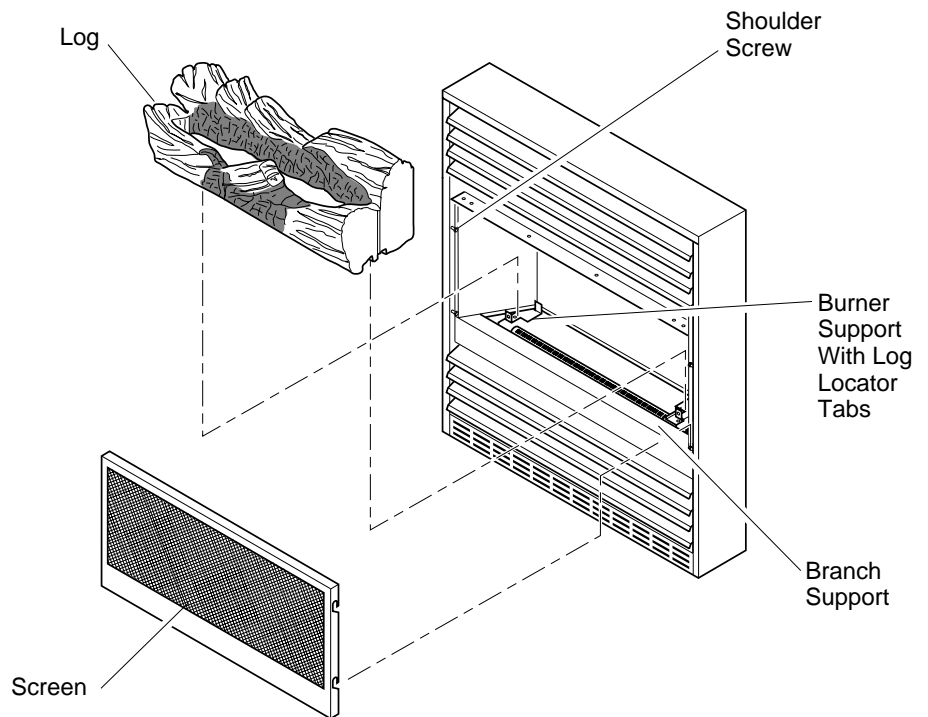

Figure 3 - Assembling Fireplace
4. Remove log packaging material and discard packaging. Gently place log on burner support (see Figure 3). The log should fit flat against top of burner support and log locator tabs fit into the slots under the log. Do not allow log to contact flame. If flame contacts log, soot will be created.